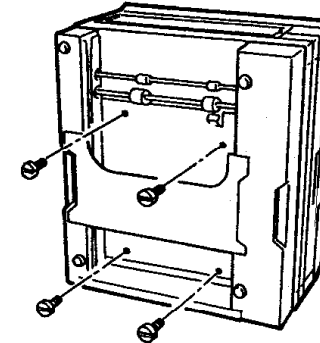

Figure 1. Auxiliary tray
5. Remove the four screws retaining the auxiliary tray to the bottom of the machine (figure 1).